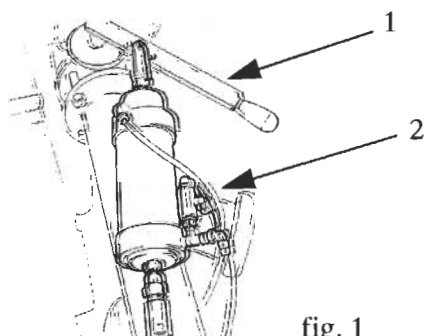

fig. 1
Shut the hydrant supply valve off; open the breather valve located over the shutting piston manually (fig.1, pos.2); open the butterfly valve manually and pull the knob in order to eliminate the remaining pressure. Shut the breather valve located over the piston off (fig.1, pos.1). Disconnect the machine inlet hose and proceed with moving the machine.